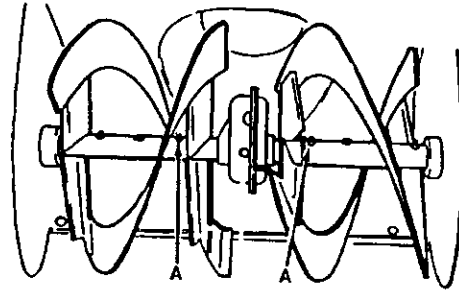

Figure 22
1. **Auger Shaft** – Using a hand grease gun, lubricate the auger shaft zerk fittings (**A**) every ten (**10**) operating hours. Each time a shear bolt is replaced, the auger shaft **MUST** be greased. See Figure 22. See **To Replace Auger Shear Bolt** in the **Service and Adjustment** section.